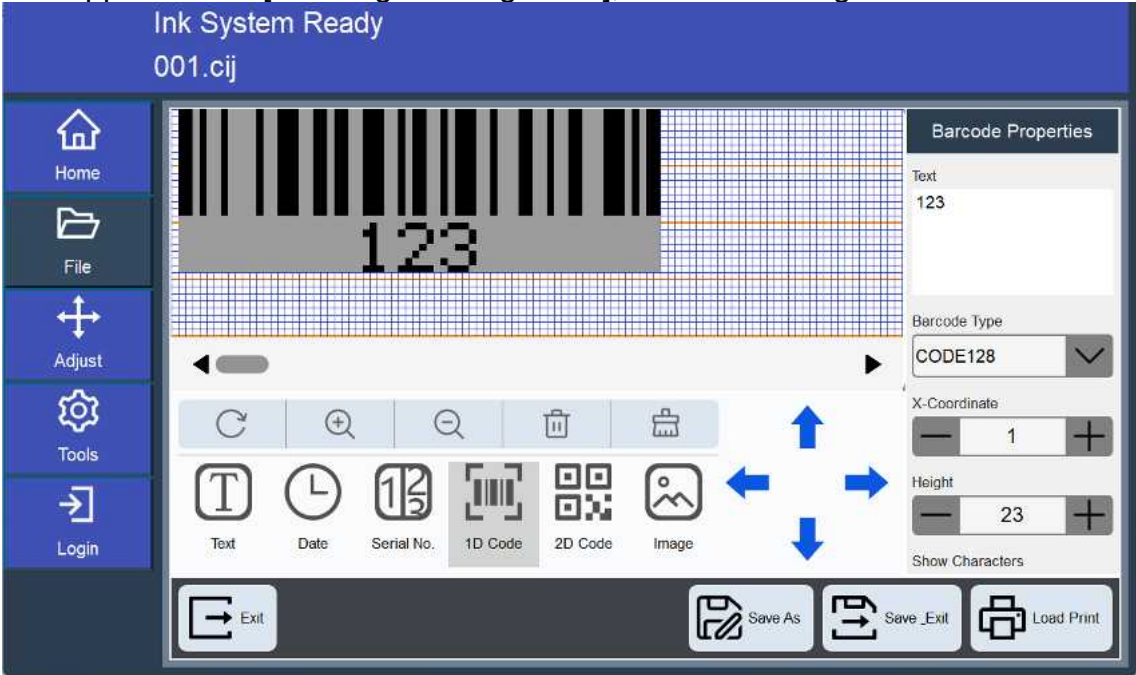

Figure 3-9 1D Barcode Editing Interface
1. To print a 1D barcode, tap the  button in the element selection area. A default 1D barcode will appear in the [Message Editing Area], as shown in Figure 3-9.